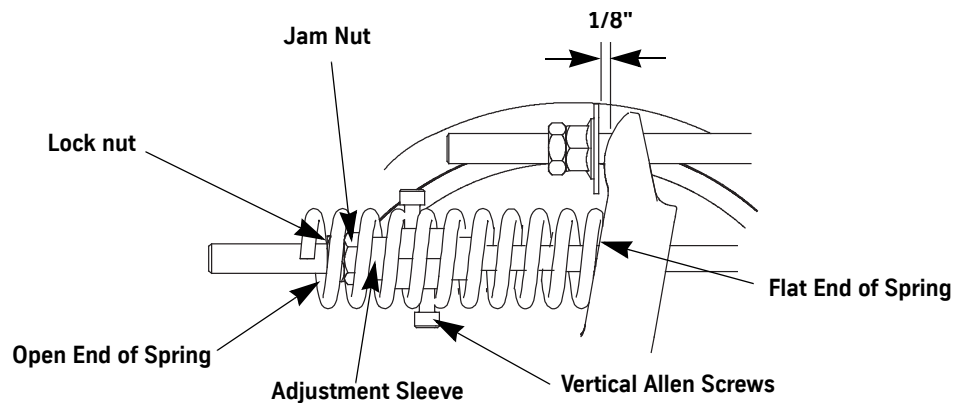

Figure 4 - Spring Tension and Stop Clearance Adjustment
1. Place the springs and adjustment sleeves for the face rollers over the studs. Make sure the studs are straight and tight. See Figure 4 for this and all remaining steps in this procedure.